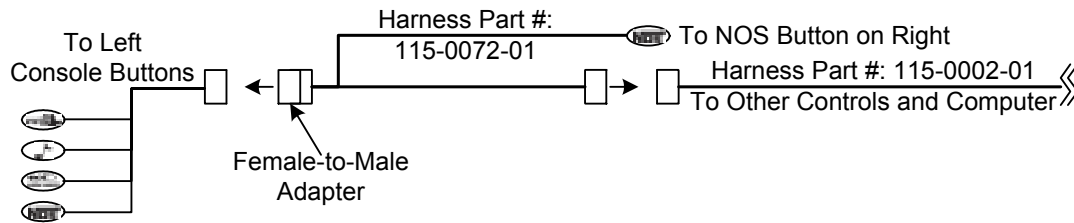
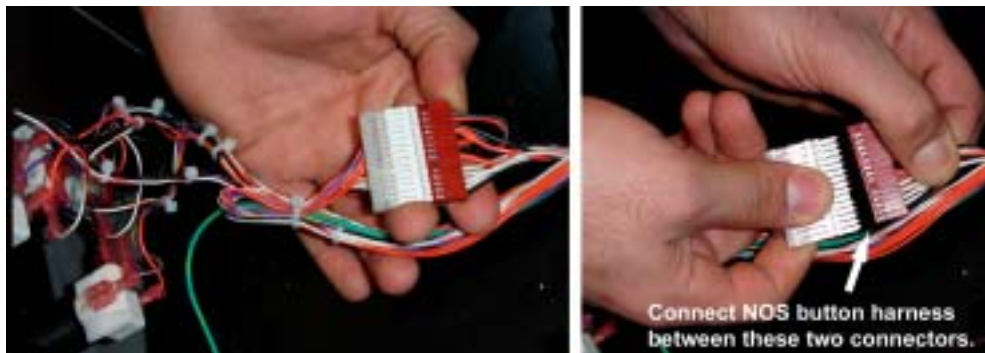

Figure 18. NOS Button Connections Diagram
Figure 19. NOS Button Harness Connectors
8. Refer to Figure 18 and Figure 19, and disconnect the 15-pin button connector from the cabinet harness (Part # 115-0002-01) and connect it to the new harness from the right NOS button. (The NOS button harness requires a female-to-male adapter that should already be connected.)